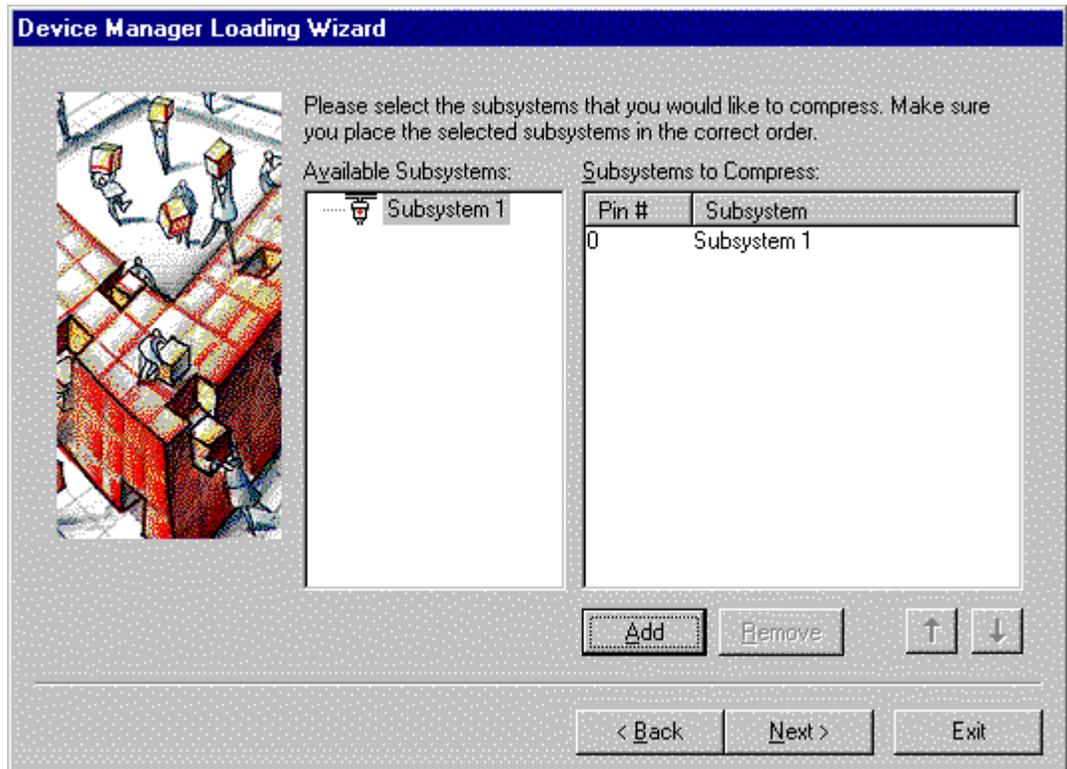

Figure 5.4 – Select Subsystems
10. Click Next. The window shown in figure 5.4 will appear.